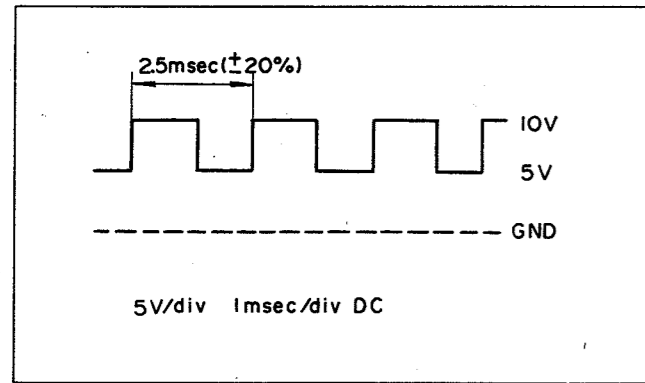

Fig. 2 (FAST)
3) Next, set tempo to fast and confirm Fig. 2 waveform.